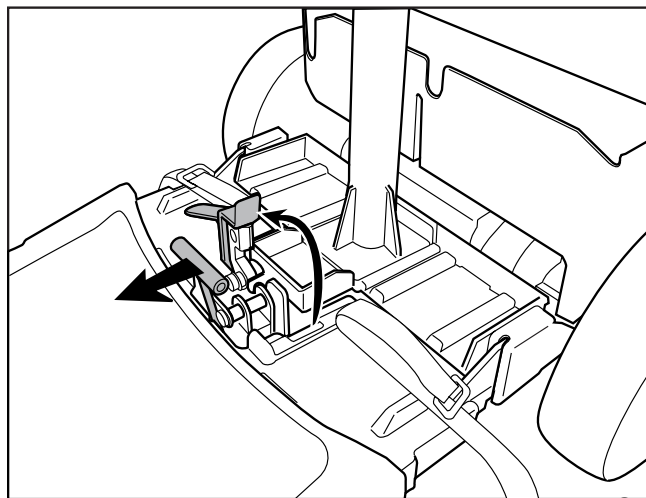

Fig. 21
- 9.** Grasp the handle and pull it toward the front of the scooter to release the latch. (Fig. 21)